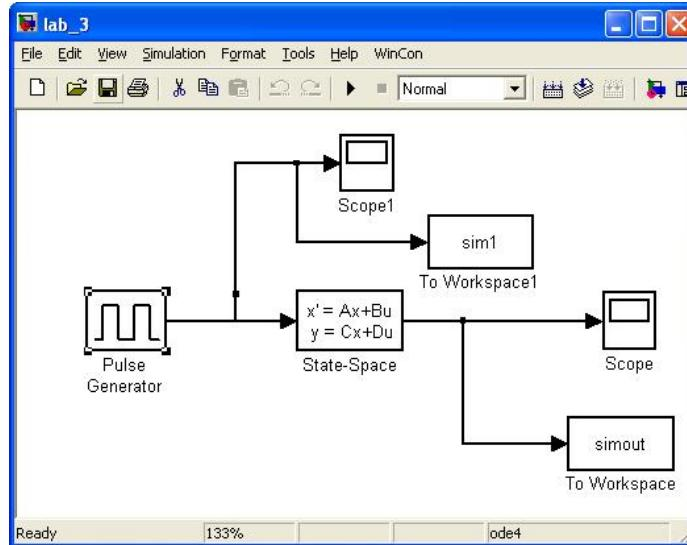

Figure 5.2: Simulink model for Lab 5
3. Prepare the Simulink model shown in Figure 5.2.